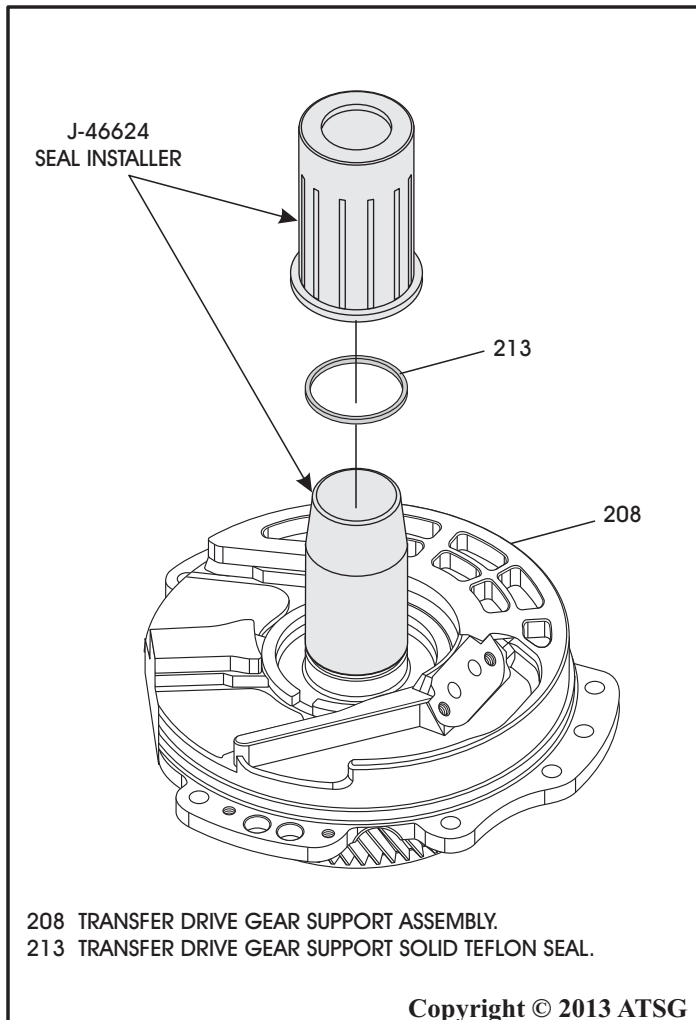

Figure 103
6. Install a new transfer drive gear support solid Teflon seal, as shown in Figure 103.